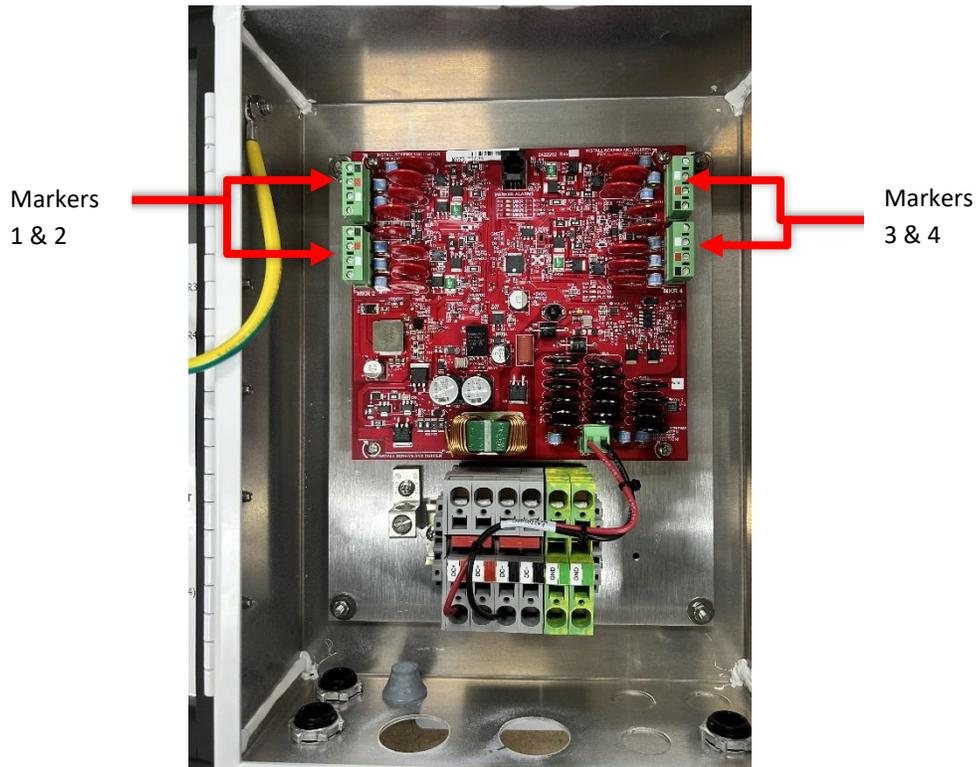

Figure 2.6 – Marker Interface Wiring
Wiring information is provided in the following steps. Figure 2.6 (page 41) shows the Marker Interface Enclosure with three (3) markers connected. Figure 2.22 (page 58) shows a system installation diagram. Figure 2.32 (page 70) shows the recommended cable routing and an internal wiring diagram for the Marker Interface Enclosure.